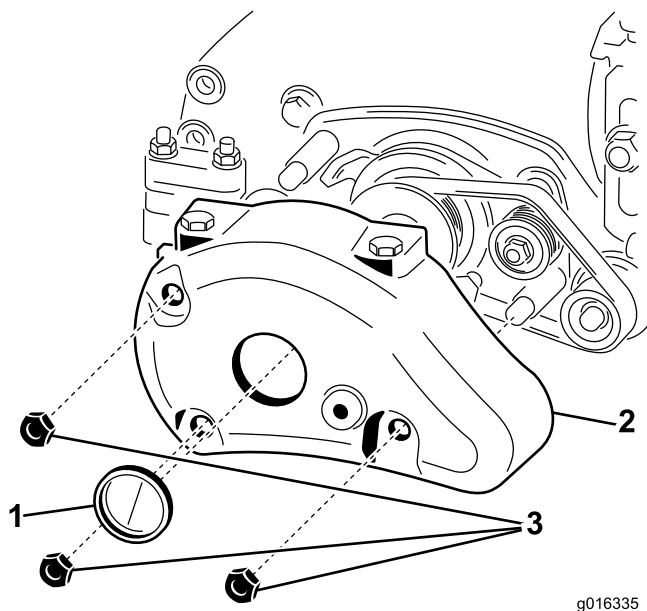

Figure 14
3. Remove the 3 nuts and the groomer cover from the end of the cutting unit; see Figure 14. Pushing from the inside, remove the plug from the large hole in the center of the groomer cover.
4. Attach the groomer cover back onto the cutting unit with the previously removed fasteners; see Figure 14.